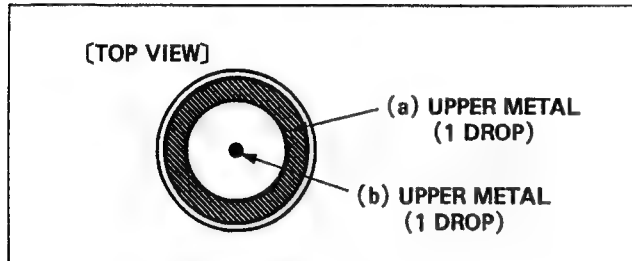

Figure M6-A
3. Apply two drops of the oil (VFK0131) on the top of Capstan Shaft as shown in Figure M6-A.